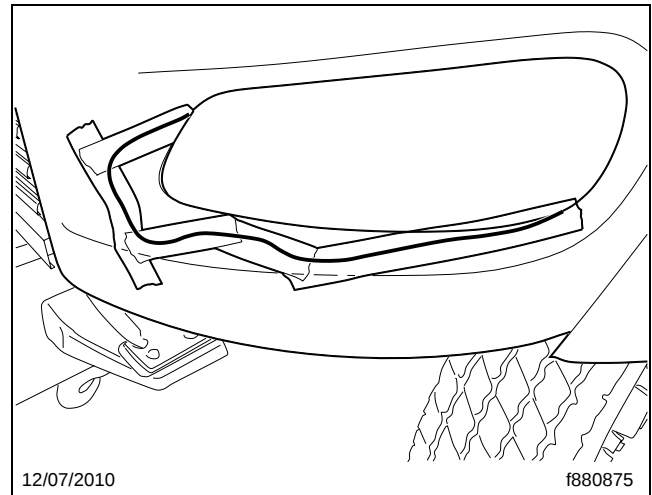

Fig. 6, Guide Line for the New Headlight Opening
10. Remove the templates. The guide lines for the saw should be clearly visible. See **Fig. 6**.